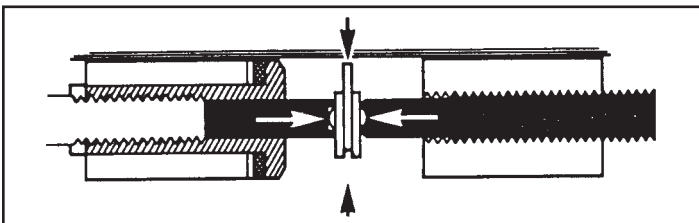

Figure 22. Forming a Rivet Head
6. Turn the spinner crank while slowly running the take-up handle inward (approximately one full revolution) until the rivet head is formed (Figure 22).